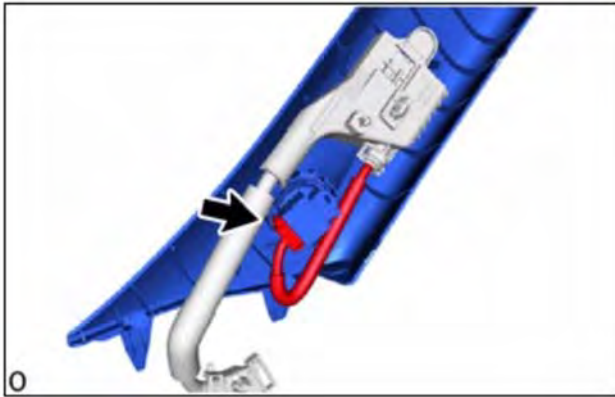

Figure 16
(1) Disconnect the connector. Figure 16.